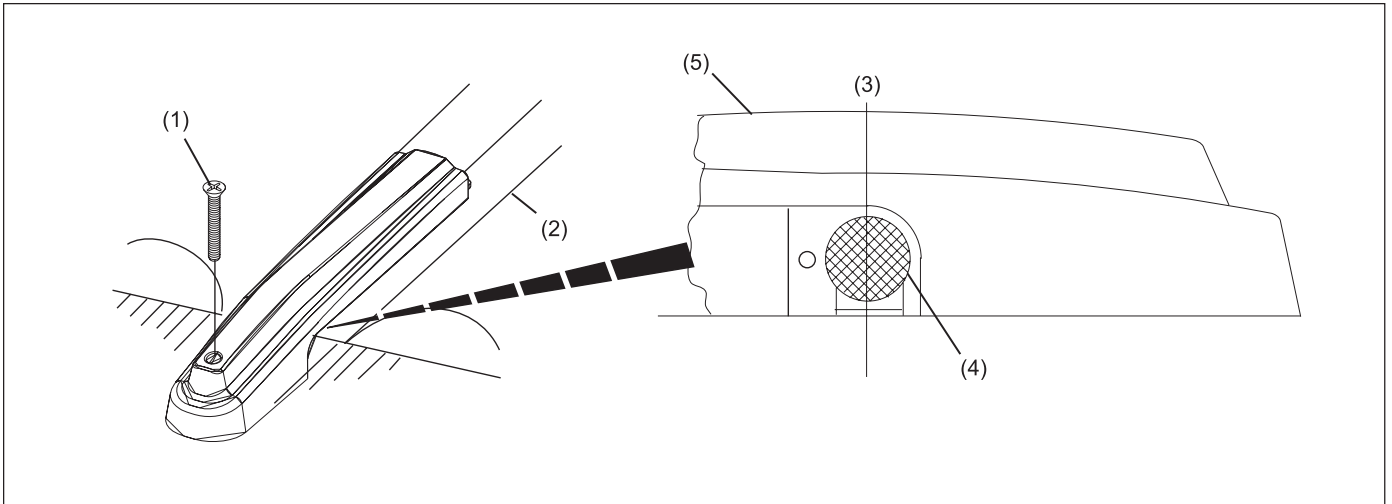

Figure 15.
4. Position the cover over the unit and trim the division capping and gutter for a smooth fit and a clear opening for the optical beam to return to the sending unit. Refer to *Figure 15*.
5. Mark the mounting hole locations, drill two 5/16" diameter holes, and install the Tap-Loc inserts. Mount the cover using the hardware shown in *Figure 15*.